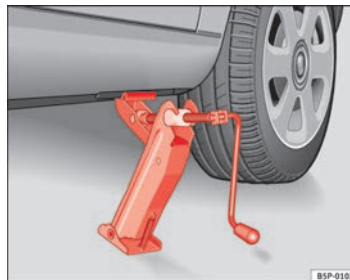

Fig. 177 Fitting the jack
- Align the jack so that the arm of the jack fits around the rib under the door sill and the movable base plate of the jack is flat on the ground ⇒ Fig. 177.